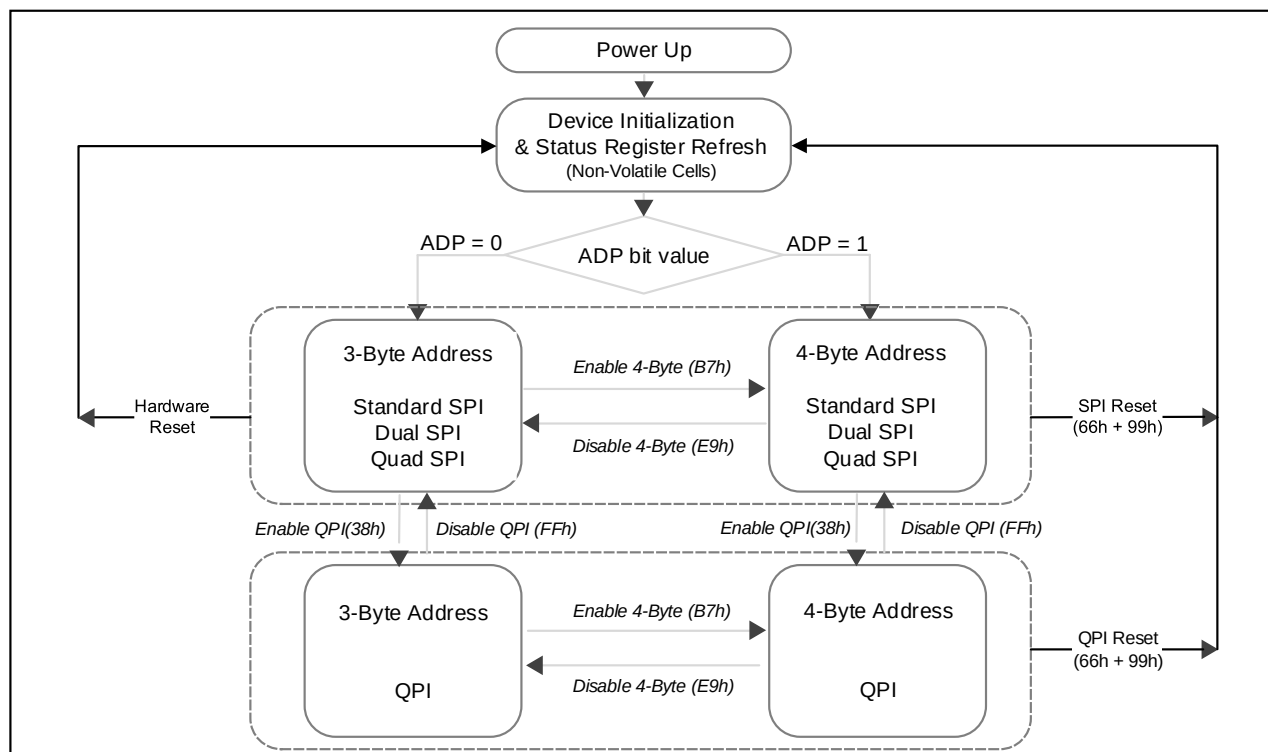

Figure 3. XM25QW256C Serial Flash Memory Operation Diagram
The XM25QW256C supports Quad Peripheral Interface (QPI) operations only when the device is switched from Standard/Dual/Quad SPI mode to QPI mode using the “Enter QPI (38h)” instruction. The typical SPI protocol requires that the byte-long instruction code being shifted into the device only via DI pin in eight serial clocks. The QPI mode utilizes all four IO pins to input the instruction code, thus only two serial clocks are required. This can significantly reduce the SPI instruction overhead and improve system performance in an XIP environment. Standard/Dual/Quad SPI mode and QPI mode are exclusive. Only one mode can be active at any given time. “Enter QPI (38h)” and “Exit QPI (FFh)” instructions are used to switch between these two modes. Upon power-up or after a software reset using “Reset (99h)” instruction, the default state of the device is Standard/Dual/Quad SPI mode. To enable QPI mode, the non-volatile Quad Enable bit (QE) in Status Register-2 is required to be set. When using QPI instructions, the DI and DO pins become bidirectional IO0 and IO1, and the /WP and /HOLD pins become IO2 and IO3 respectively. See Figure 3 for the device operation modes.